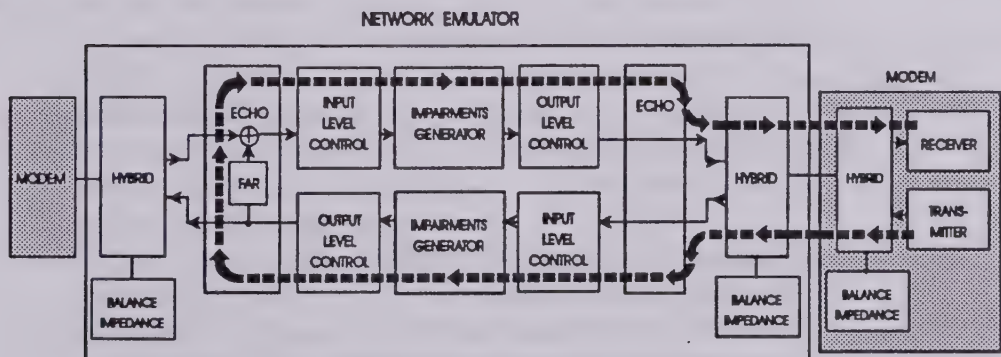

Figure 3.3.7.3-1. Far Talker Echo
The TAS 100 Series provides far end talker echo simulation for station A and station B. Station B (A) far talker echo is illustrated in Figure 3.3.7.3-1 and is the reflection of the modem B (A) transmit signal that occurs at the station A (B) hybrid (far end) of the TAS 100 Series. The magnitude of this reflection is determined by the trans-hybrid loss of the station A (B) hybrid. The station B (A) far echo attenuator magnitude is equal to the trans-hybrid loss of the TAS 100 Series hybrid A (B), if the hybrid is balanced.